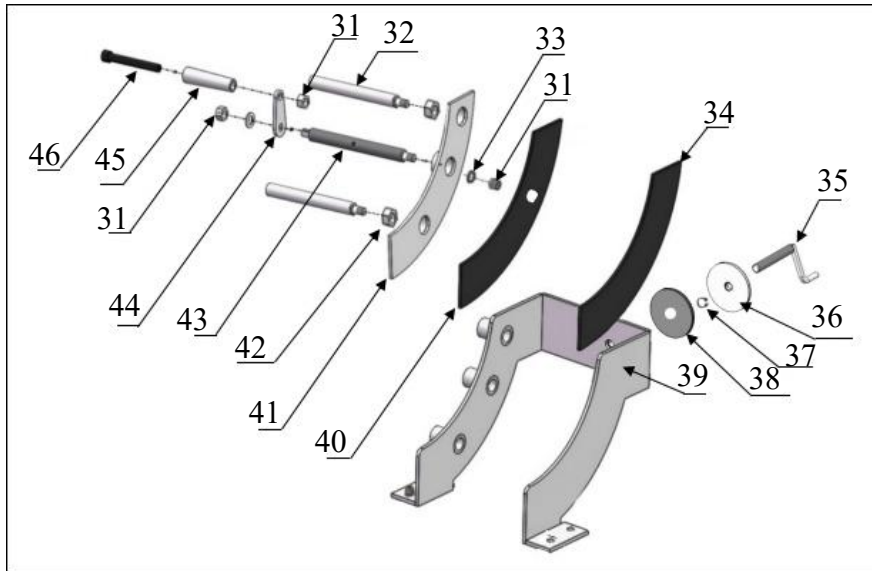

Fig.15
3.Exploded view of wheel vise (See Fig 15)